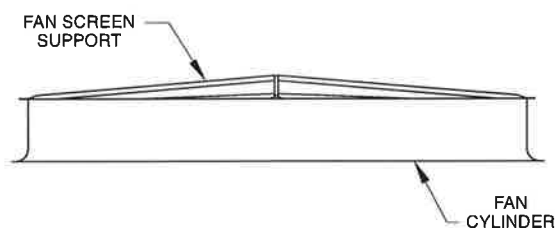

Figure 19 – Support Frame Installation
1. Set the support frame across the top of the discharge cylinder. (see Figure 19)